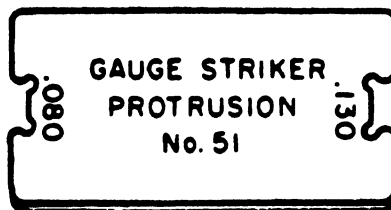

Fig 1-15. Striker protrusion gauge.
k. Striker Protrusion Gauge (fig 1-15); the striker protrusion gauge is used to measure the firing pin.